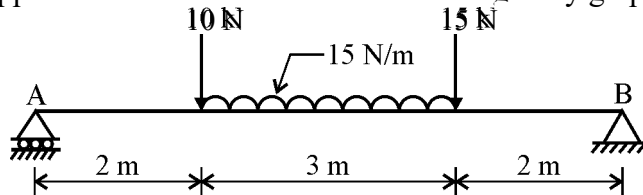

Fig. 4
- (f) Find support reactions for a beam shown in Fig. 4 by graphical method.